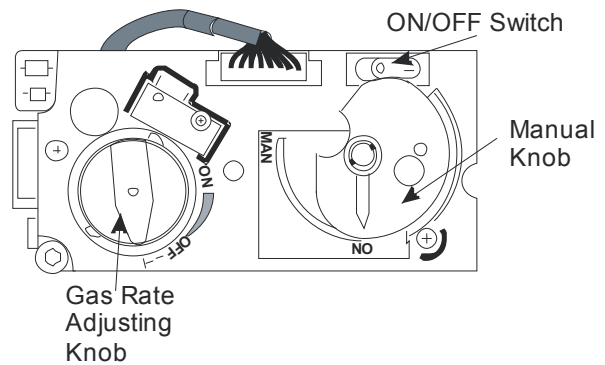

Figure 8 – Total Control Gas Valve
1. Ensure that gas is available at the valve and the ON/OFF switch in the ON position (–). (See **Figure 8**).